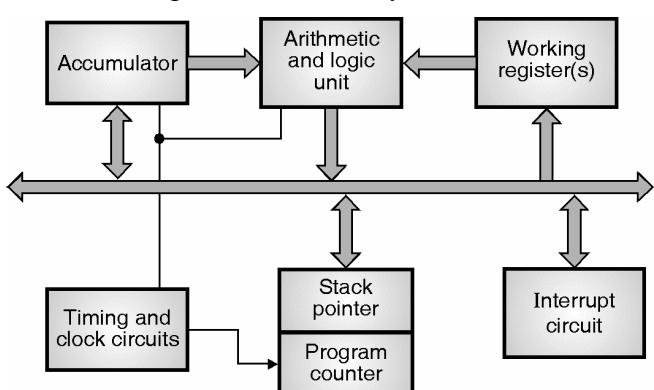

Fig. 9.5.1 : General architecture of a microprocessor
- Fig 9.5.1 shows the architecture of microprocessor. This architecture is divided in different groups as follows :